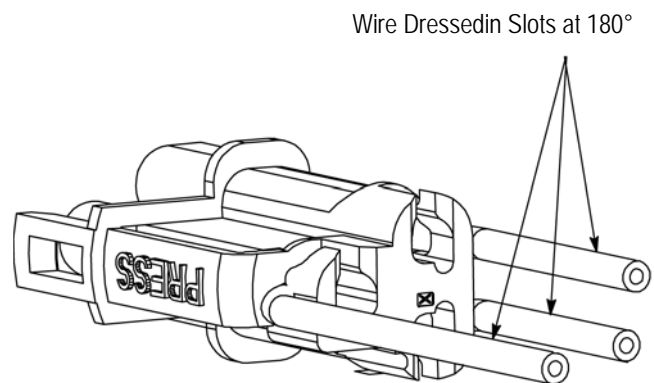

Figure 6
5. Dress the wire 180° to complete the process. See Figure 6.